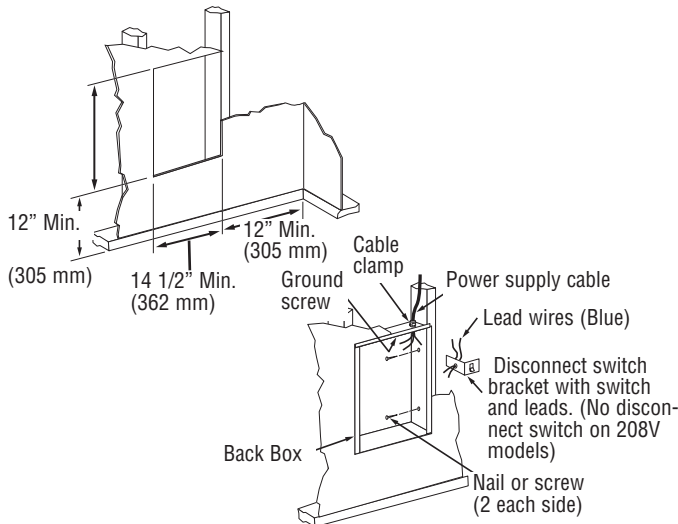

Figure 2: Locating Back Box in Existing Construction
- Provide a wall opening 14-3/4" (375 mm) wide by 18-1/2" (470 mm) high at the desired mounting height, but no closer than 12" (305 mm) from floor. (See Figure 2.) Locate so that at least one side of opening is at wall stud.
- Run a power supply cable into the knockout area in the upper right hand corner of the wall opening (see Figure 2). All wiring must be in accordance with National and Local Electrical Codes. Refer to Specifications for correct wire size.